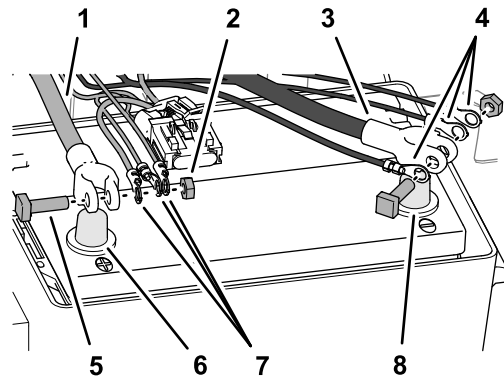

Figure 162
4. Remove the T-bolts and hex nuts from the terminals of the positive and negative battery cables (Figure 162).